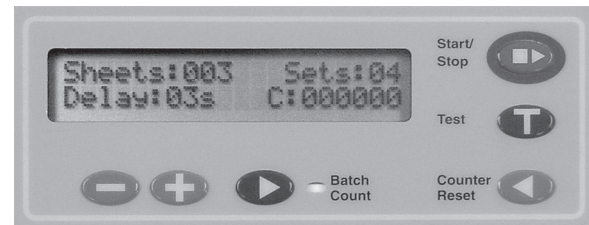

Fig. 9b
2. Once you have entered the Autobatch mode press the “+” or “-” button and “Sheets”(Fig. 9b) will blink. Press the “+” or “-” buttons to increase or decrease the number of sheets to be pulled.
3. When the sheet number is set wait 5 seconds and “Sets” (Fig. 9b) will blink. Press the “+” or “-” buttons to increase or decrease the number of sets to be pulled.
4. When the number of sets has been selected wait 5 seconds and “Delay” (Fig. 9b) will blink. Press the “+” or “-” buttons to increase or decrease the time delay between the sets.